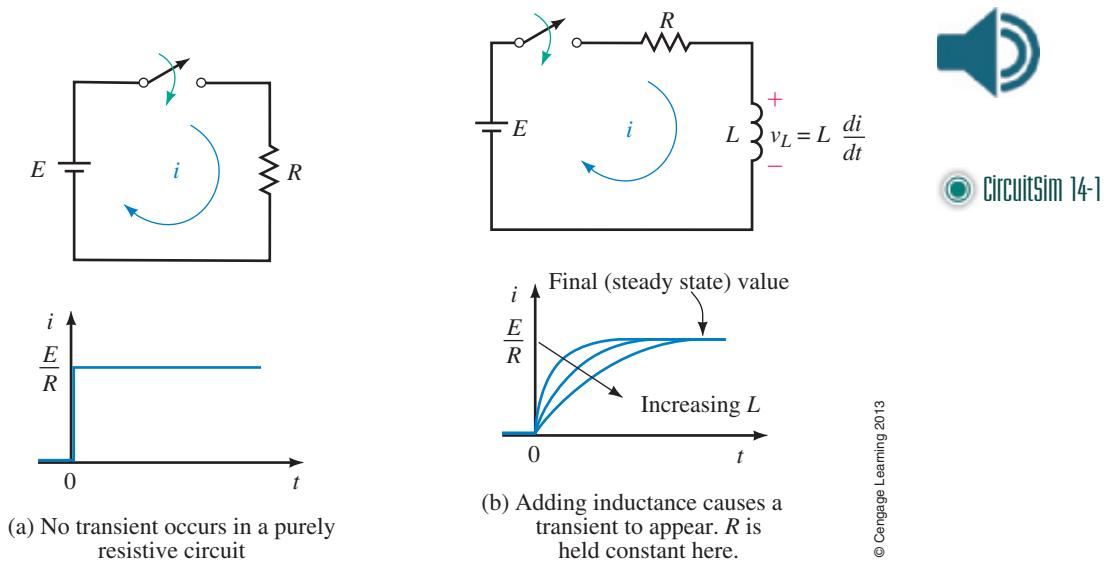

FIGURE 14-1 Transient due to inductance. Adding inductance to a resistive circuit as in (b) slows the current rise and fall, thus creating a transient.
- c. Values are plotted in Figure 14-8. Note that this curve looks exactly like the curves we determined intuitively in Figure 14-1(b).